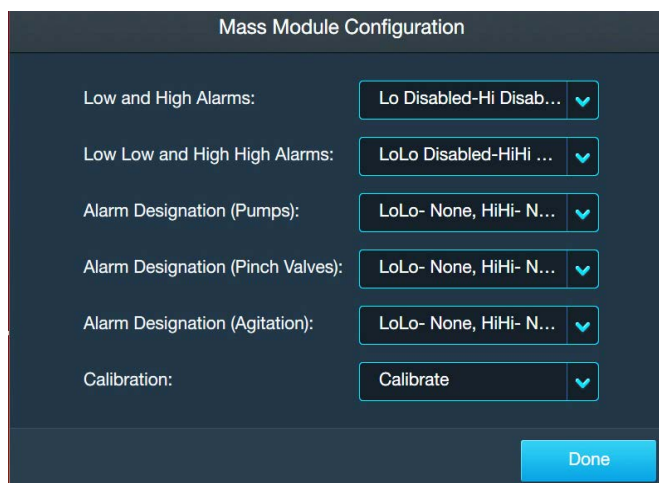

Figure 3.21. Mass Configuration screen.
Use the following information and steps to configure the Mass module. Each of the items listed below is shown in Figure 3.21. **Note:** You can touch **Done** at the bottom of the Configuration screen at any time during module configuration. Your input will be saved, and you can continue where you left off the next time you open the module configuration.
1. Locate the Mass module on the Touchscreen Console Home screen, and then touch **Configure**. The Mass Configuration screen will appear (Figure 3.21). Touch the **Units** field.